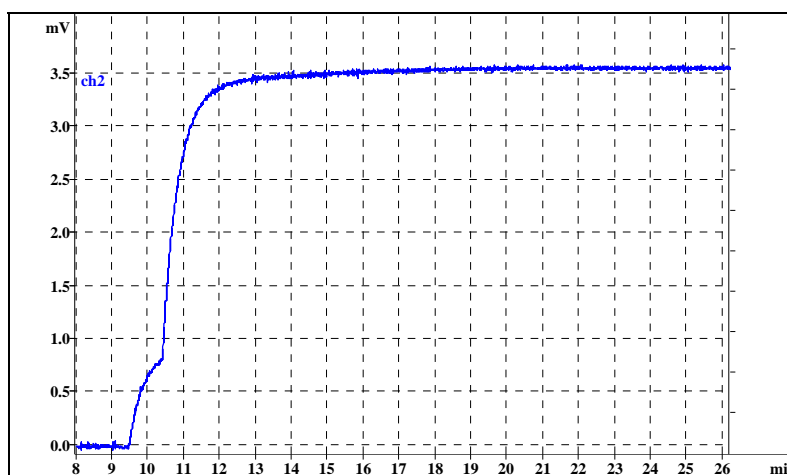

Figure 14. Example of a pressure trace recorded with ALEXYS data system software.
- Record the pressure profile for at least 20 minutes at the relevant flow rate (see example trace in figure 14). Check after 20 minutes if the back pressure is stabile (pressure line running horizontally). Continue recording the pressure signal in case equilibrium is not yet reached.